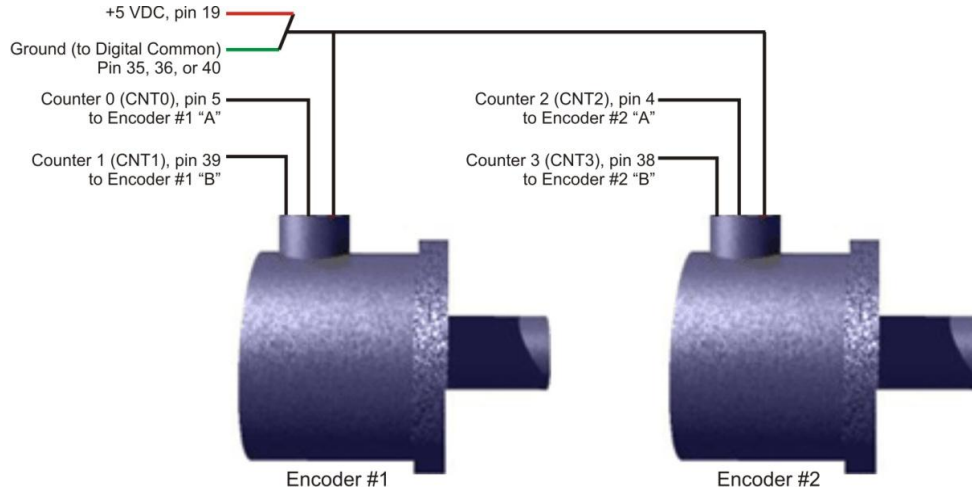

Figure 23. Two encoders connected to pins on the SCSI connector\*
**Wiring for two encoders:** Figure 23 shows the single-ended connections for two encoders. Differential connections do not apply.